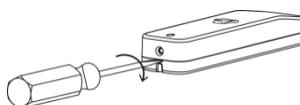

Fig. 2. Way of opening the housing.
3. Battery installation. To replace the batteries, place a flat screwdriver in the place shown in figure 2 and gently turn it around its axis. Repeat this operation in several places on the opening line until the housing is completely separated. Then remove the used batteries, insert the new ones in accordance to the polarity direction and assemble the housing.